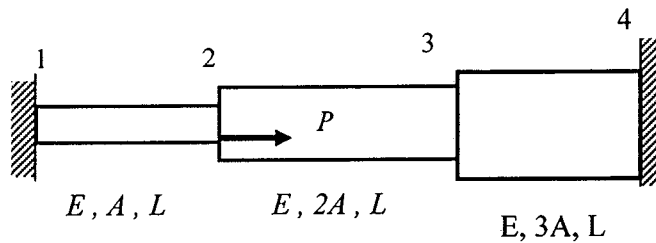

Figure 7(a)
4. (a) Write down the element stiffness matrices and global matrix for the **THREE (3)** bars assembly which is loaded with force  $P$ , and constrained at the two ends in terms of  $E$ ,  $A$  and  $L$  as shown in Figure 7(a).